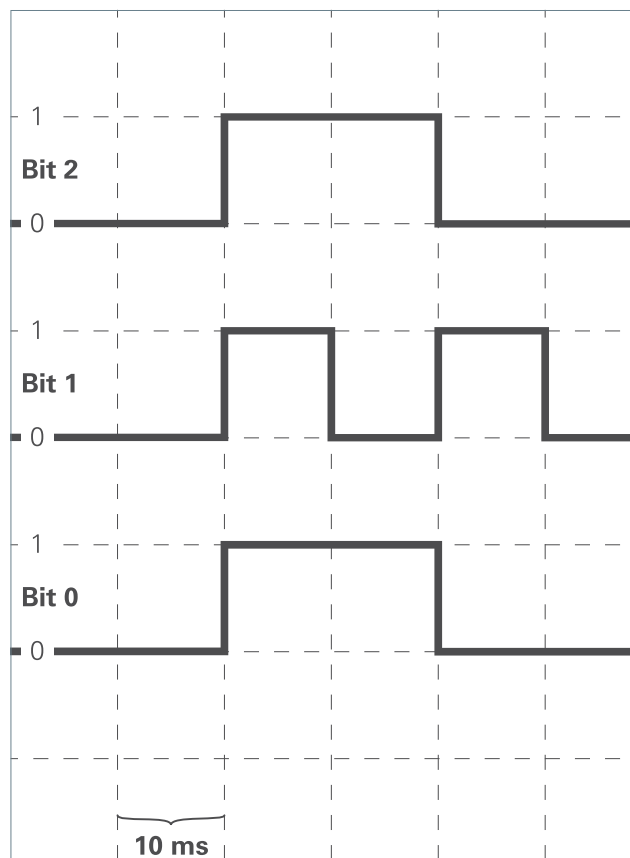

Fig. 9: Bit sequence to deactivate the operating mode "Combined operation WHITE+RGB".
- ▶ Send the bit sequence for deactivation to the connection cable with the white luminaires and the RGB luminaire, see Fig. 9.